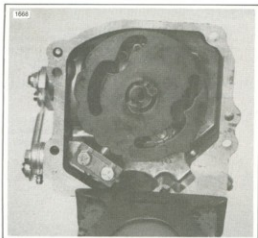

Figure 7-22. Plate Shifter in Neutral
1. Place the shifter cam in neutral position as shown in Figure 7-22.